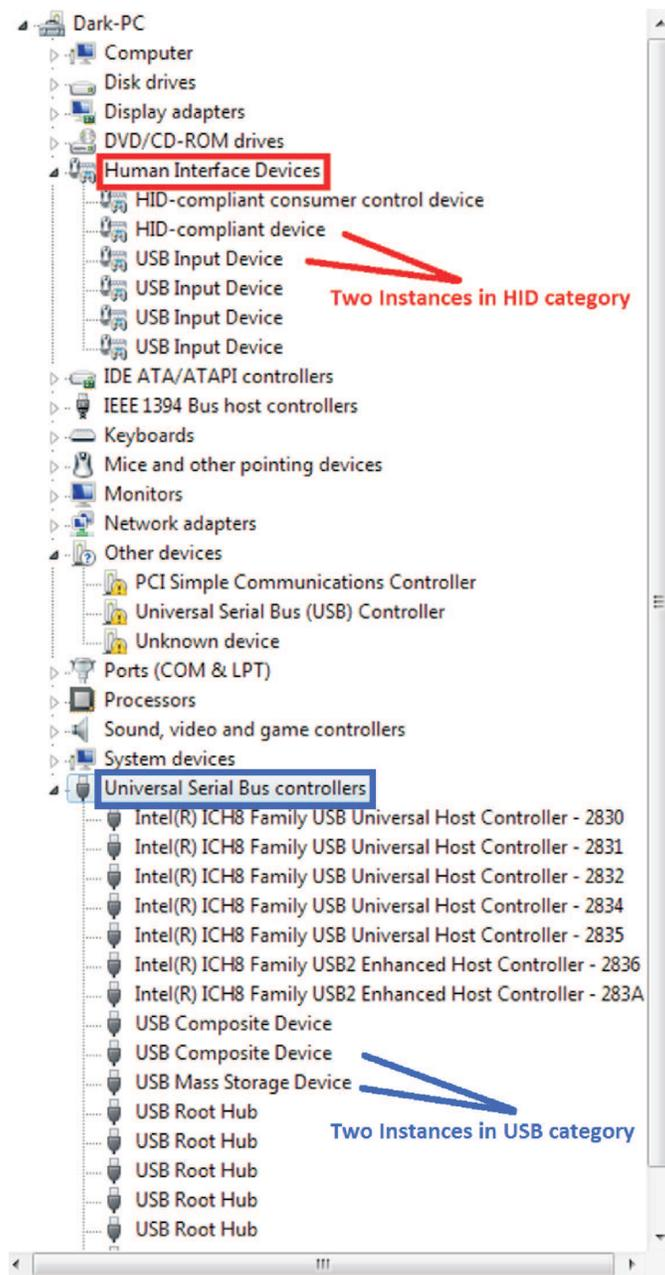

Figure 2-6. TUSB926x Device Instances on HID-Enabled Firmware
2. HID-enabled firmware (see Figure 2-6)